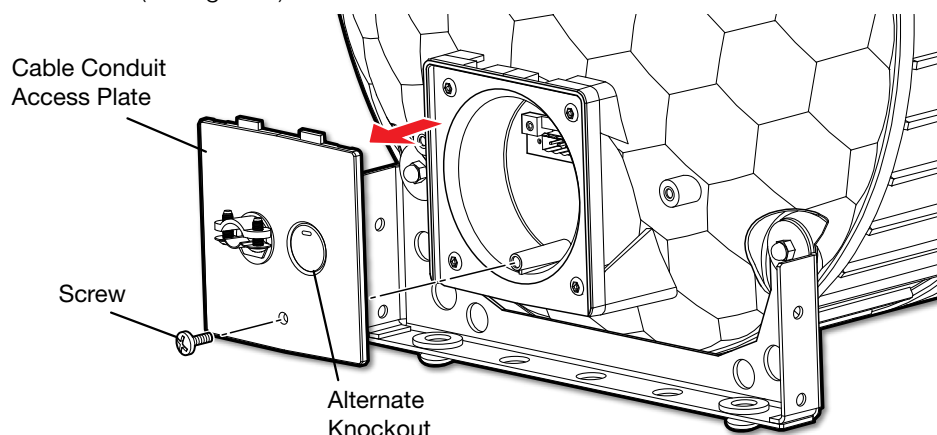

Figure 9. Removing the Cable Conduit Access Plate
1. Loosen the cable conduit access plate screw and remove the plate before wiring the subwoofer (see figure 9).